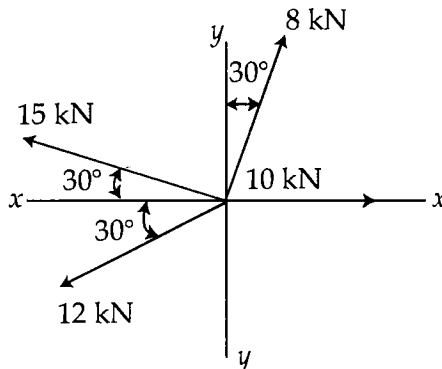

Fig. 1
1. (a) Find the magnitude and direction of the 7+7 resultant force for the force system shown in fig. 1.